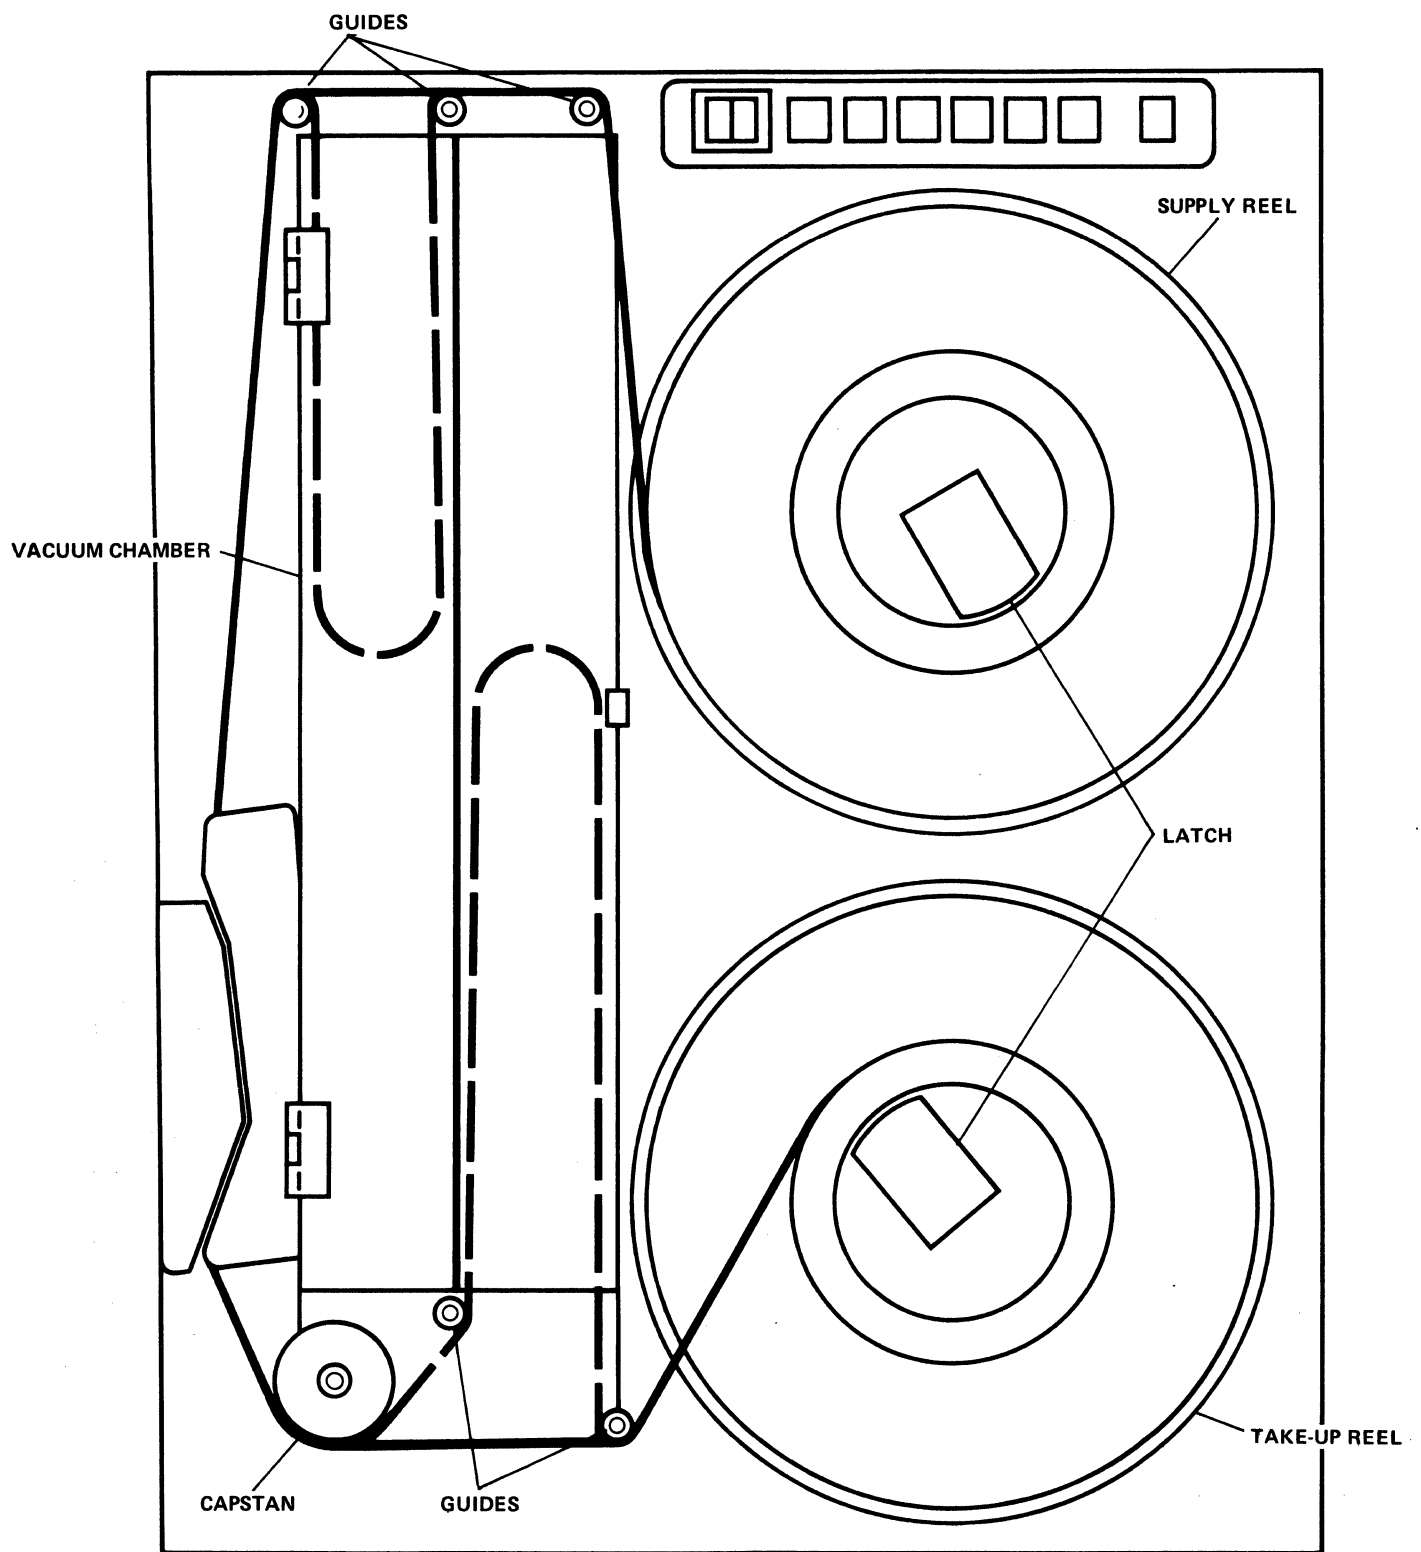

Figure 3-2. Diagram of Tape Threading Path
- d. Notice the tape threading diagram inside the cover door, or refer to figure 3-2, and thread the tape as shown. Secure the tape end to the takeup reel by holding the tape end with a finger through the hole in the reel flange and rotating the takeup reel in the *clockwise* direction. Continue turning the takeup reel a few turns in the clockwise direction until you are sure that the tape is on securely and there is enough tape to tension the tape.